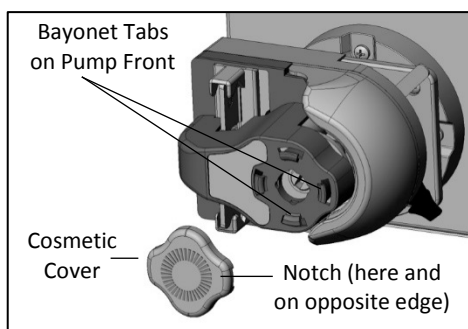
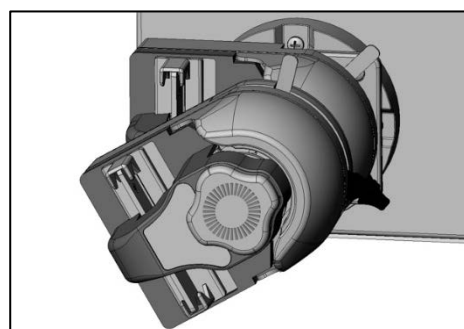

Figure 8: Preparation to mount a second pump head
Figure 9: Engaging bayonet of second pump head to bayonet tabs on first pump head
1. The KrosFlo® Research II Pump Heads can be mounted in tandem (see Figures 8, 9 and 10). Once the mounting plate is attached to the pump drive, no other mounting hardware is required
3. To install a second pump head, the cosmetic cover must be removed from the first pump head. Grasp the cover by the notches and pull it off (see Figure 8). Align the second pump head to the first, as if the first pump head were the drive, and continue to follow pump head mounting instructions (see Figures 9 and 10)